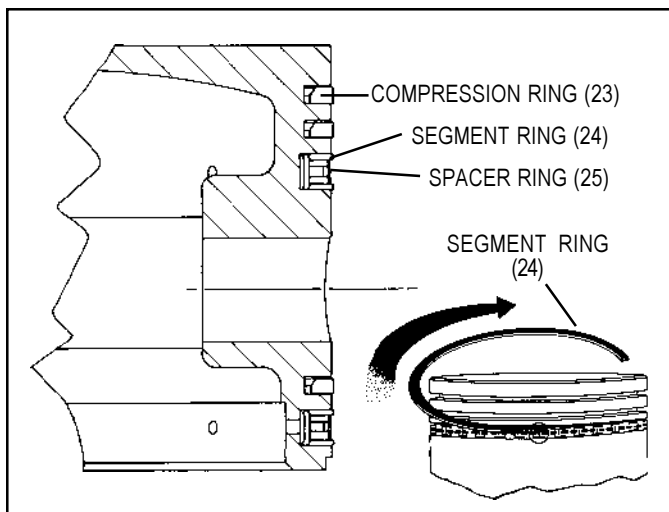

FIGURE 14 - PISTON & RINGS
both painted ends of the spacer are visible and butted. (Refer to Figure 14.)
2. Install the compression rings (23) in the proper grooves with the bevel or "pip" mark (if any) toward the top of the piston. (Refer to Figure 14.)